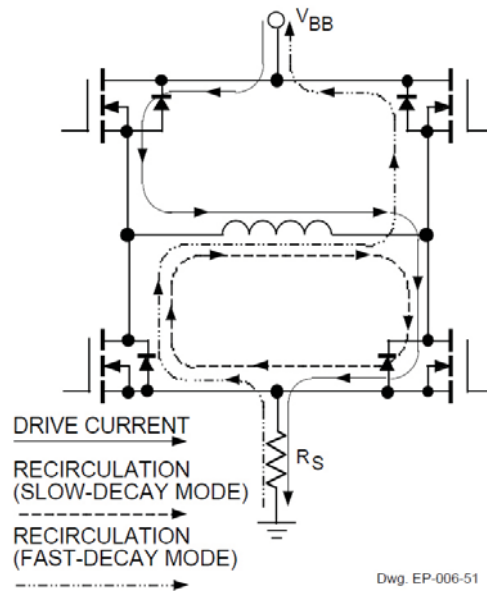
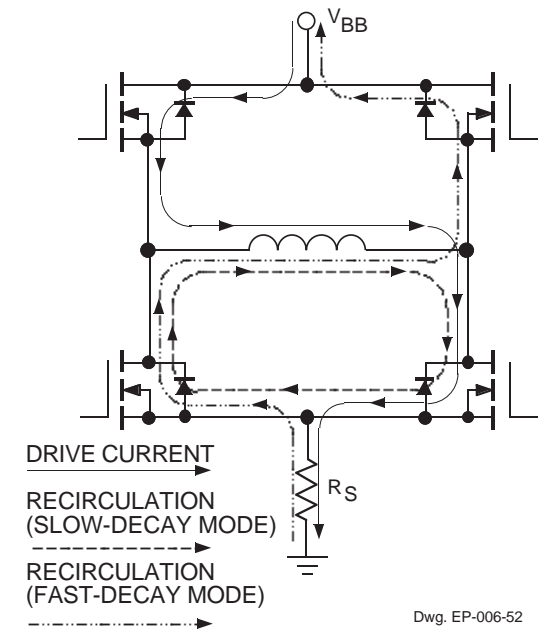

Figure 6. Current Paths
Figure 11. Current Paths with Synchronous Rectification Enabled
Internal PWM Current Control Each H-bridge is controlled by a fixed-off-time PWM current-control circuit that limits the load current to a desired value (I_{TRIP}). Initially, a diagonal pair of source and sink DMOS outputs are enabled and current flows through the motor winding and the current-sense resistor (R_S) as shown in figure 6. When the voltage across R_S equals the DAC output voltage, the current-sense comparator resets the PWM latch, which turns off either the source drivers (slow-decay mode) or both the source and sink drivers (fast-decay or mixed-decay modes) and the current recirculates as shown in figure 6. During this recirculation the current decreases until the fixed-off time expires. The appropriate output drivers are enabled again, the motor-winding current again increases, and the PWM cycle is repeated.
Synchronous Rectification When a PWM off cycle is triggered, by a bridge disable command or internal fixed-off time cycle, load current will recirculate according to the decay mode selected by the control logic (figure 6). The A3977/79 synchronous rectification (SR) feature will turn on the appropriate DMOS devices during the current decay and effectively short out the body diodes with the low $r_{DS(on)}$ driver (figure 11). In fast-decay synchronous rectification mode the voltage across R_S is monitored to prevent reverse conduction. Just before the recirculation current reaches zero all of the DMOS devices are turned off and current flows through the body diodes.